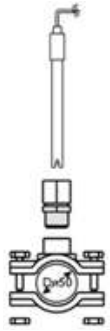

Fig. 3
a) **Saddle for the pH sensor (Fig. 3):** Before installation, drill a hole in the top of the pipe with size approx. 12 mm. and make sure the sensor can pass through. Install the saddle so that the hole in the pipe coincides with the sensor connection of the saddle. (Saddle needs to be purchased separately)